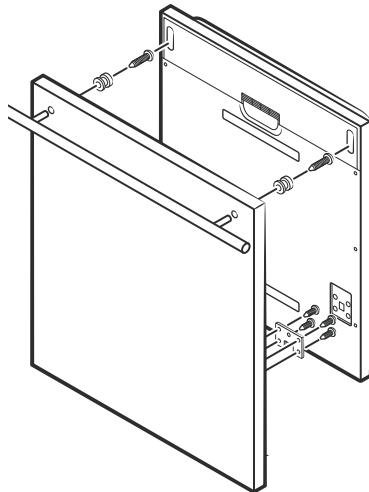

Figure 4a - Installation of aesthetic panel
- Install the hook on the aesthetic wooden panel and put the hook into the slot of the outer door of dishwasher (*figure 4a*). After positioning of the panel , fix the panel onto the outer door by screws and bolts (*figure 4b*).